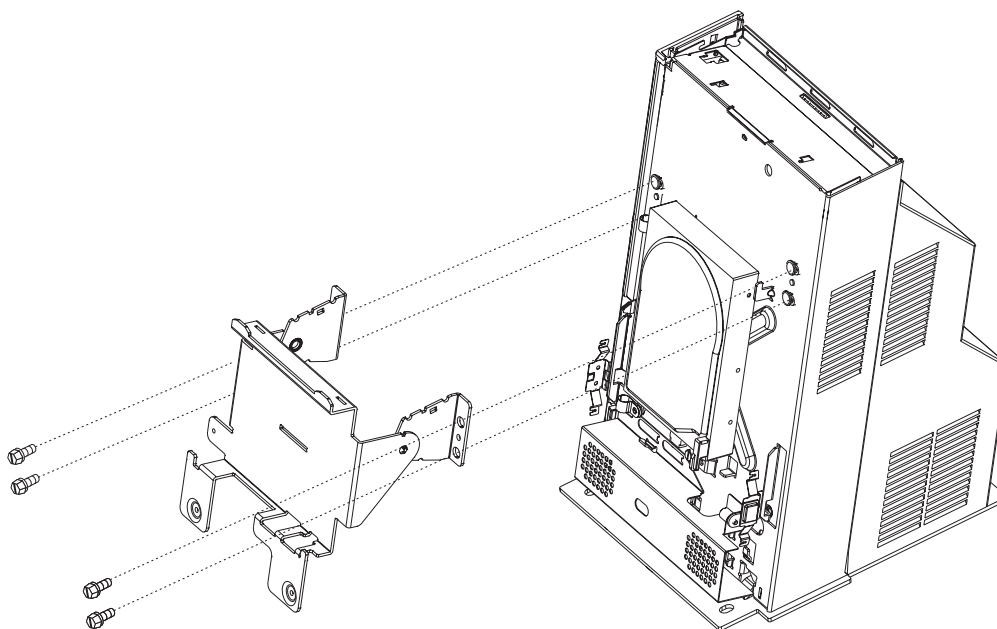

Figure 17. Removing the tablet hinge assembly
6. Remove the four screws shown in Figure 17 and lift off the hinge assembly.